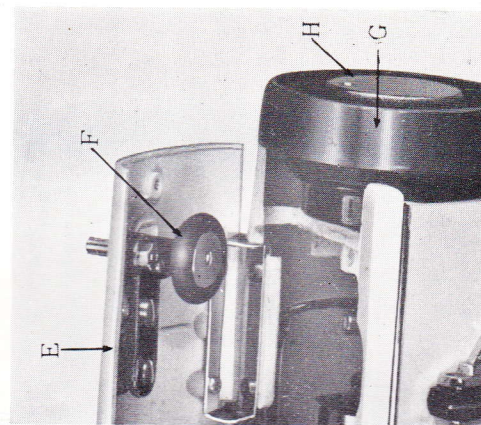

Fig. 3
- 1) To wind the bobbin, disconnect the hand wheel from the stitching mechanism (Fig. 3). By turning the stop motion knob (H) toward you with the right hand (while holding the hand wheel with the left hand) disconnect the sewing mechanism for the bobbin winding operation. This is necessary to prevent damage to your machine while winding the bobbin.